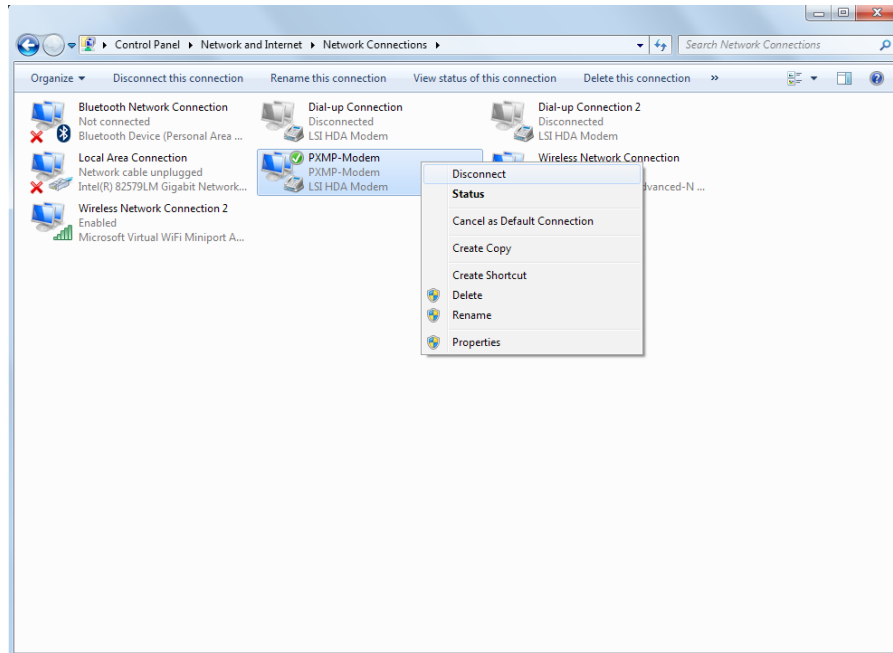
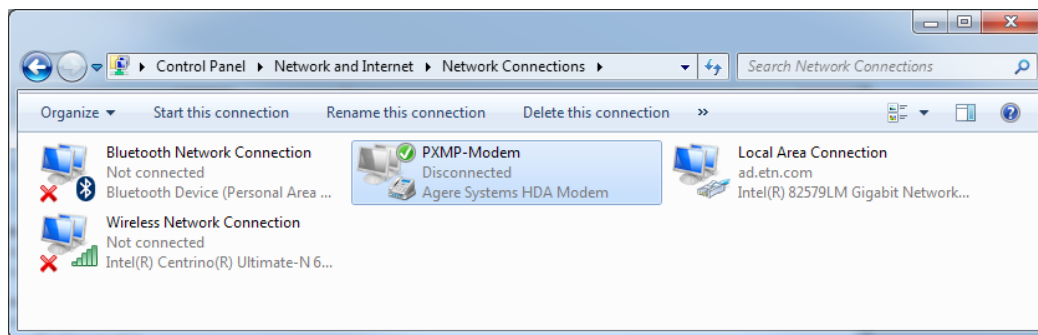
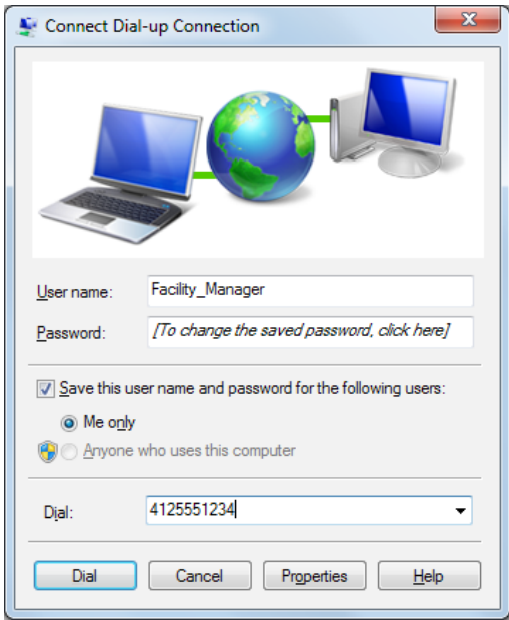

Figure 52. Disconnect Modem Connection.
Figure 53. Modem Connection.
Figure 54. Connect Dial-up Connection.
6. To disconnect from the PXMP-EPM-M module's modem, in Network and Sharing Center (Figure 66), click the Change adapter settings on the left. A Network Connections window, similar to the one shown in Figure 52, appears. In the example shown in Figure 52, "PXMP-Modem" is a currently active modem connection. Right-click the active modem connection and select Disconnect from the context menu. Once the PC is disconnected from the PXMP-EPM-M module's modem, the modem connection status become Disconnected, as shown in Figure 53.
7. To reconnect to the same PXMP-EPM-M module, select the previously established connection in Control Panel > Network and Internet > Network Connections. In the example shown in Figure 53, the "PXMP-Modem" connection is selected.
- 8. Double-click the selected modem connection in Figure 53, a window similar to the one shown in Figure 54 appears. The Facility Manager needs to confirm that the information in User name, Password and Dial is correct. Click the “Dial” button to proceed and reconnect to the PXMP-EPM-M module’s modem.